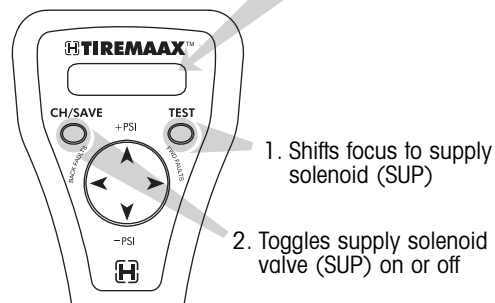

Figure 11. Testing the supply solenoid valve (SUP) response
- To test the supply solenoid valve response, press the TEST button (figure 11). The diagnostic focus shifts from the warning lamp to the supply solenoid valve.
Press the CH/SAVE (change / save) button to toggle the supply solenoid valve from off to on. Press the CH/SAVE button again to toggle the valve from on to off (figure 11).